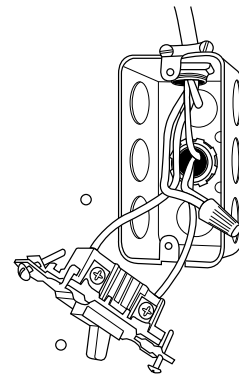

Fig. 25 – Field-Supplied Electrical Box on Furnace Casing ^{A10141}
6. Route furnace power wires through holes in casing and electrical box and into electrical box, see Fig. 25.